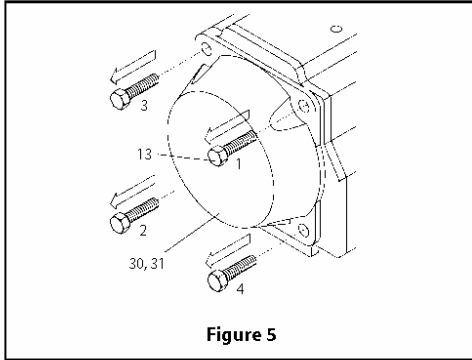
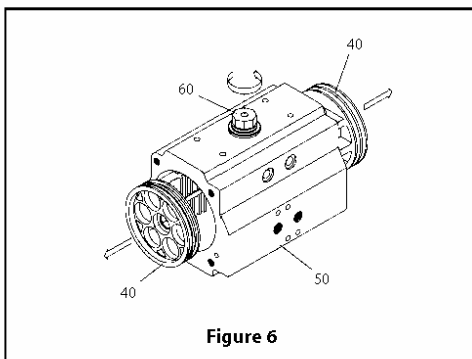

Figure 5
Figure 6
- A. Remove both stop cap screws (02) together with nut (04) and washer (03).
- B. Remove stop screw o-rings (11) and discard if replacing all soft parts.
3. End Cap (30,31) Disassembly, (Figure 5):
- A. Remove the end cap bolts (13) in the sequence shown in (Figure 5). **CAUTION: When disassembling a spring return actuator, the end cap (30, 31) should be loose after unscrewing end cap bolts (13) 4-5 turns. If there is still force on the end cap (30, 31) after 4-5 turns of the end cap bolt (13), this may indicate a damaged spring cartridge and any further disassembly should be discontinued. Further disassembly of the end-caps may result in serious personal injury. Return actuator to Metso Automation for further maintenance.**
- B. For spring return actuators, remove spring cartridges (17).
- C. Remove end-cap o-rings (14) and discard if replacing all soft parts.
4. Piston (40) Disassembly, (Figure 6):